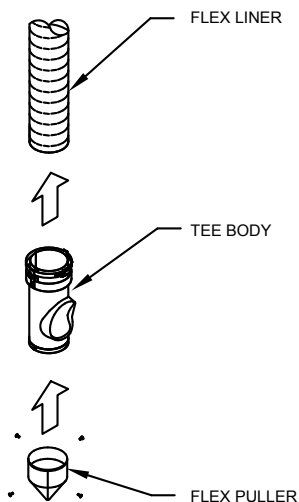

Figure 9
Step 1. If a Tee application is required, and the masonry chimney has no offsets, attach the body of the Tee to the Flex as shown in **Figure 9**, by tightening the fast connect band. Attach the other end of the Tee to the Flex Puller, and proceed as described in **Step 4** of the previous section.